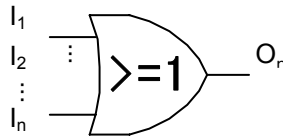

Fig. 5-20 OR function circuit
As shown in Fig. 5-20 and 5-21, this function reflects the results of a logic (OR) function processing for multiple inputs (I_n) in the function output (O_n).